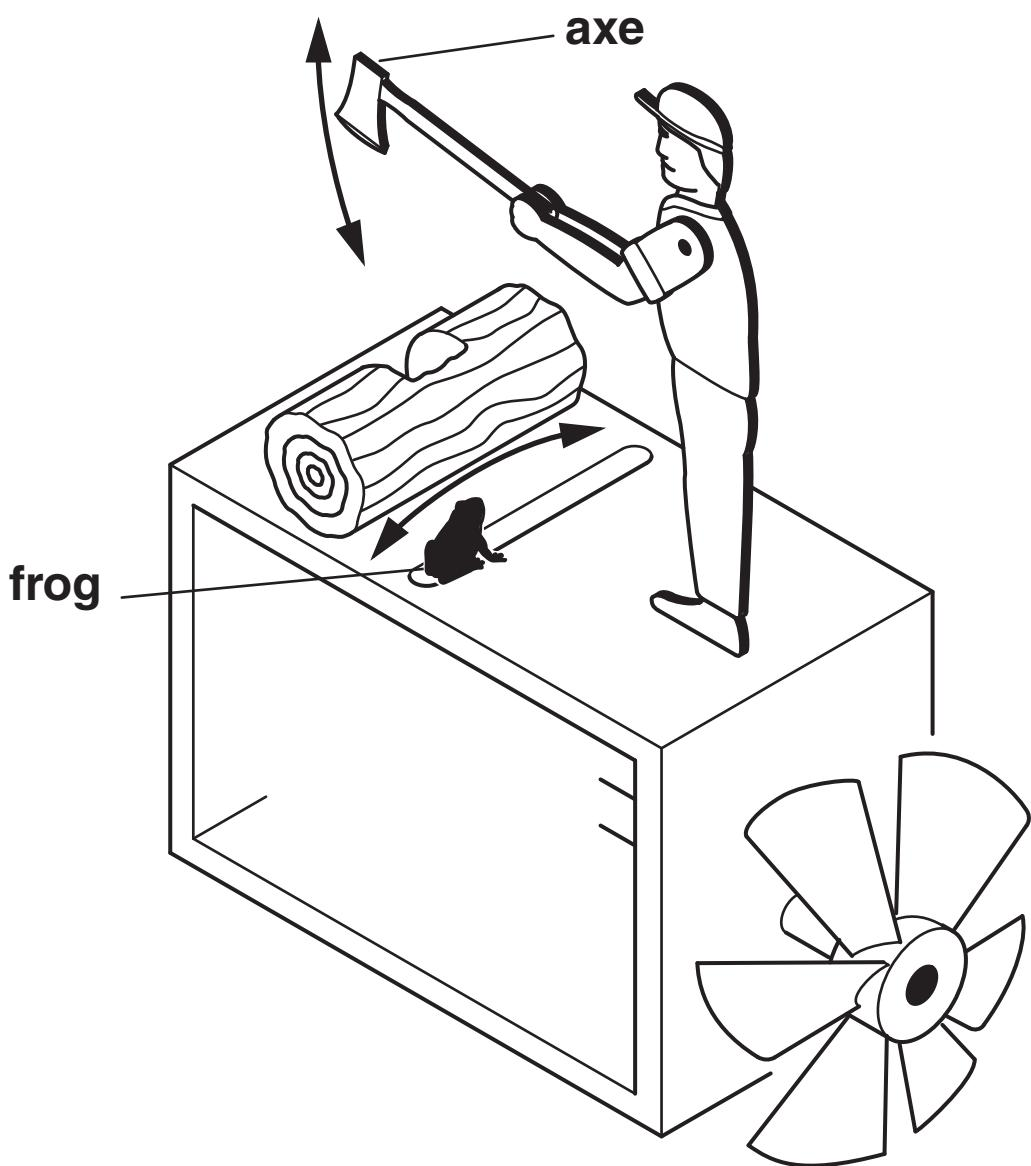

Fig. 9
- 5 Fig. 9 shows a partly completed wind powered garden ornament.**